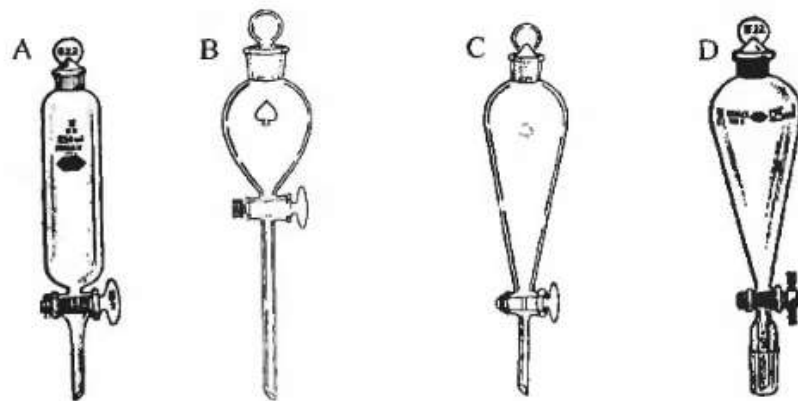

Figure 9-4. Various types of separatory funnels. (A) Cylindrical. (B) Globe. (C) Pear. (D) Standard taper bottom.
- The simplest type of extraction vessel is a separatory funnel; several types are shown in Figure 9-4. They are usually either cylindrical (A), globe shaped (B), or pear shaped (C, D). They may have either glass or plastic stoppers and stopcocks and may have a standard taper joint at the bottom. They usually are made of borosilicate glass, but the wine red colored "low actinic" also can be obtained for use with light-sensitive compounds.